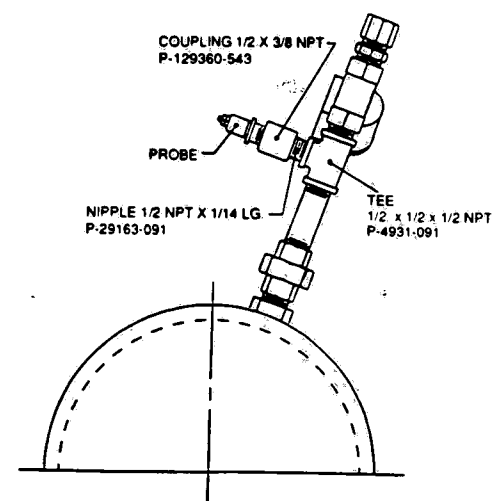

FIGURE 3-8 - AS Series Piping
**AS model --** The sensing probe mounts into 1/2" x 3/8" coupling, which in turn mounts into a 1/2" nipple and a 1/2" x 1/2" x 1/2" tee (see Figure 3-8). The probe itself is a standard production Warrick sensor holder, part number P387337-663. The tip of the probe may or may not have a coupling installed. It is not necessary for the tip coupling to be present for the anti-flood device to function properly.